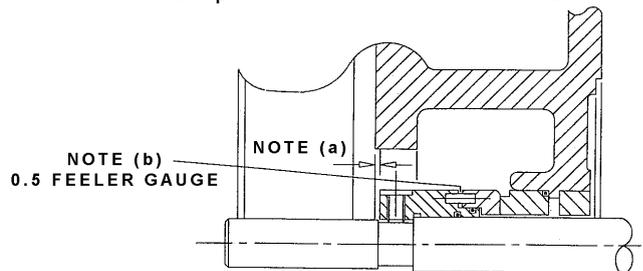

Fig 6
NOTE: Refer Fig.6.
- b) Mechanical seal faces not properly in contact – check gap between seal sleeve and rotary seal face and readjust to ensure 0.5mm clearance. Refer Fig.6.